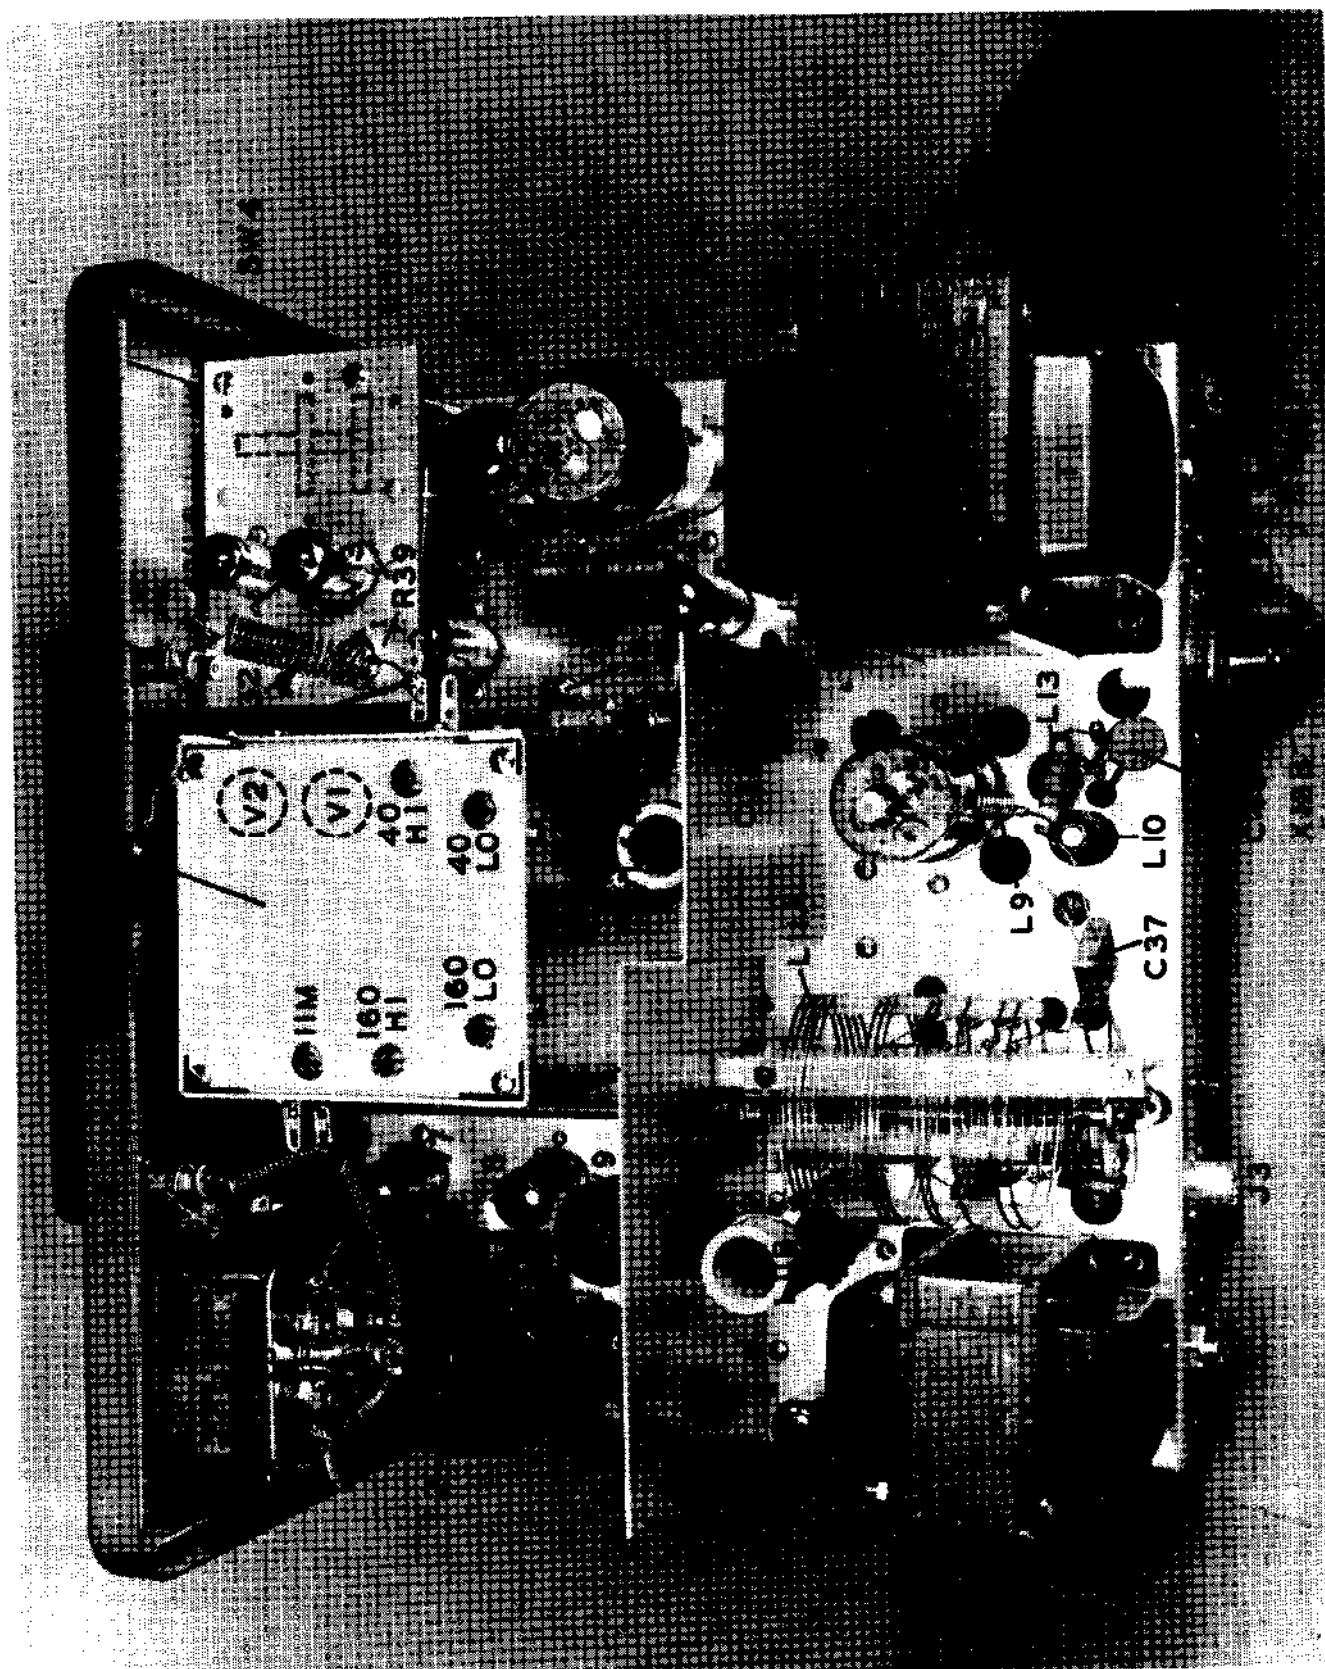

FIGURE 1 COMPLETED CHASSIS TOP VIEW.
- b. Attach the relay on the top side of the chassis between V3 and V4, shown in Figure 1, taking care to clear parts when drilling the mounting holes and a clearance hole for two insulated leads, in the chassis. Install a solder terminal at one of the mounting feet, on the topside of the chassis.